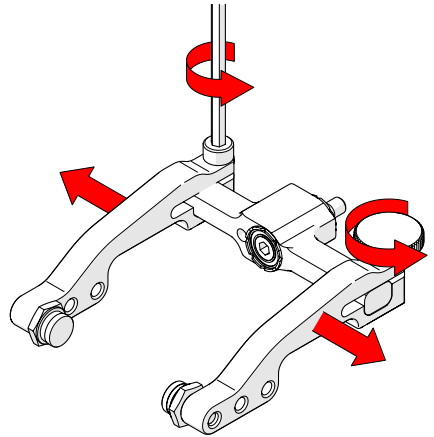

Fig. 147 - Remove arms
2. Loosen the probe holder arm adjustment knob and arm clamp screw. Slide the arms from the yoke (Fig. 147).